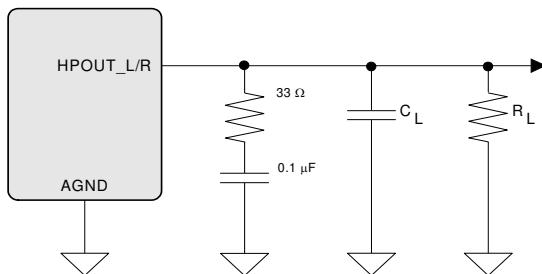
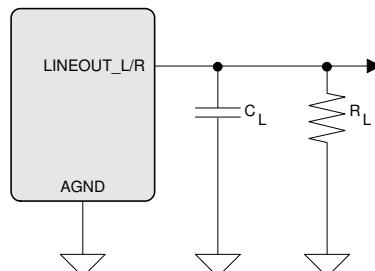

Figure 3. Output Test Load, Headphone Out
Figure 4. Output Test Load, Line Out
(Test conditions (unless otherwise specified): Input test signal is a full-scale 997 Hz sine wave; VD = 1.8 V; VL_HD = VL_IF = 3.3V; TA = +25°C; Measurement bandwidth is 10 Hz to 20 kHz; test load RL = 10 kΩ, CL = 10 pF for the line output and test load RL = 16 Ω, CL = 10 pF for the headphone output (see Figure 3); DAC Gain = 0 dB).
7. See Figure 3 and Figure 4. R_L and C_L reflect the recommended minimum resistance and maximum capacitance required for the internal op-amp's stability and signal integrity.